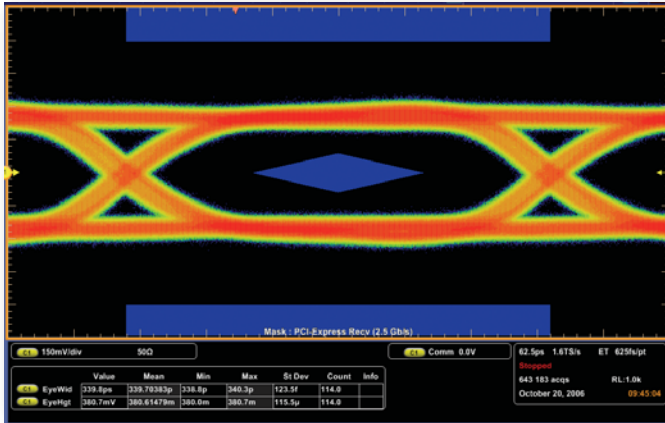

Figure 5. Eye diagram on an oscilloscope.
Key compliance verification comes from eye measurements. An eye diagram is shown in Figure 5. Eye measurements result from superimposing multiple, one unit interval (UI) signal captures (the equivalent of one clock cycle) of the data stream, triggered to the recovered clock. Failure zones in the middle of the eye and above and below the eye are typically indicated by a “mask” (blue areas), showing the boundaries the test must not violate. Eye measurements are further discussed in the Analysis section later in this document.